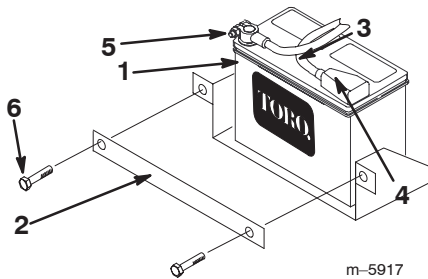

Figure 2
2. Remove the bolts, nuts, and clamp securing the battery (Fig. 2).
9. Secure the battery in chassis with the clamp, bolts, and nuts removed previously (Fig. 2).
10. Using the bolt and nut supplied with the battery, connect the positive (red) cable to the positive (+) battery post (Fig. 2). Slide the rubber cover over the battery post.
11. Using the bolt and nut supplied with the battery, connect the negative (black) cable to the negative (-) battery post (Fig. 2).